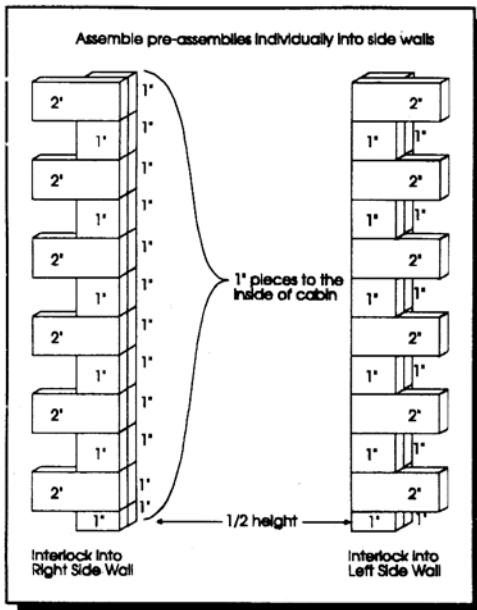

Figure 18- Install Back Walls
b. Interlock and glue the Back Wall assemblies to the back edges of the Left and Right Side Walls. Install assemblies (2"/1" and 1"/1") separately. After the assemblies are installed into the back edges of the Side Wall they will look like Figure 18.